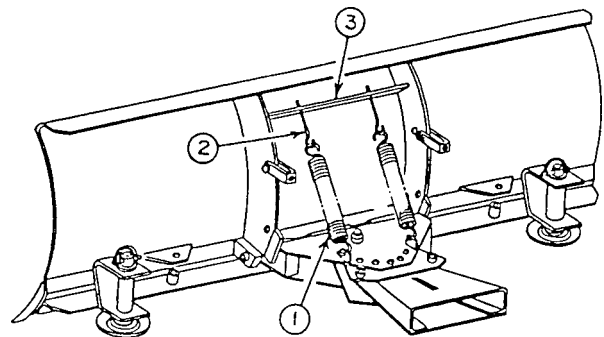

FIGURE 2
- c) Hook one end of the two springs to the attaching brackets (fig. 2, item 1) on the blade frame. Place a 5/16" x 5" eye bolt (fig.2, item 2) on the other end of each spring. Insert the eye bolts through the holes in the upper blade cross member (fig.2, item 3) as shown in figure 2. Secure the eye bolts with 5/16" nuts. Adjust eye bolts so that the spring lengthens 3/4". Lock eye bolts with two other 5/16" nuts.